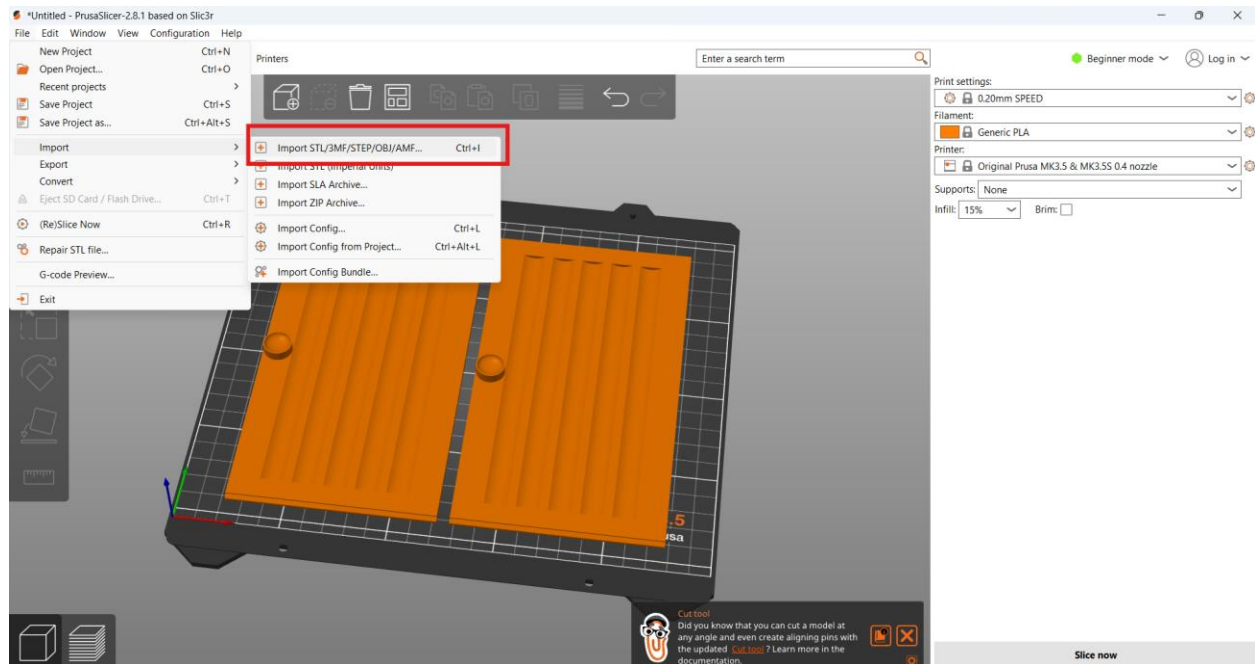

Figure 1. Button to Import
- 2.) Open PrusaSlicer and click the “File...” button (see Figure 1), then select the device file from the downloads folder named “Reading_Guide_Slide_Frame_with_Frames.”